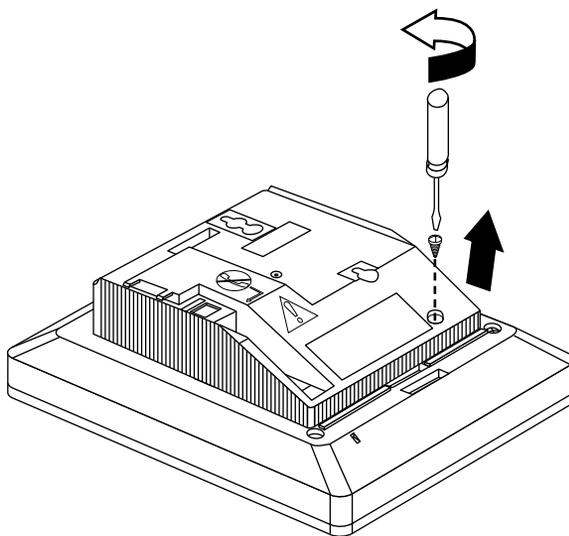
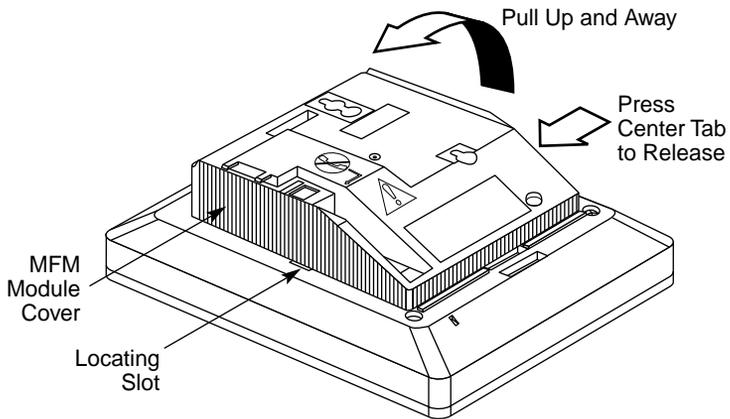
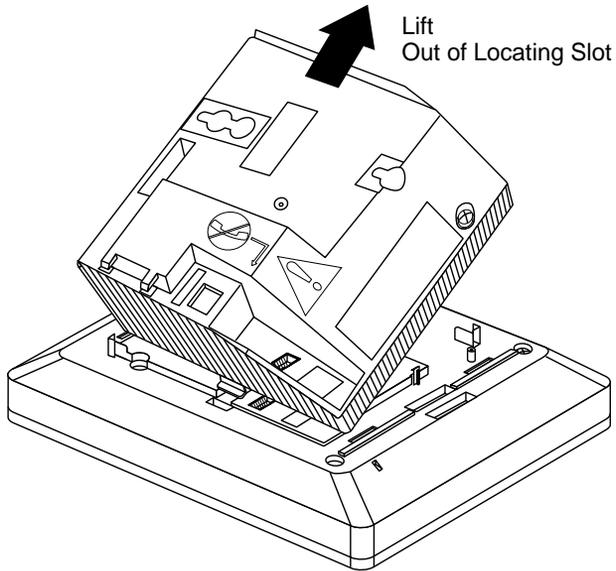

Figure 3-5. Releasing the Module Cover Screw
Figure 3-6. Releasing the Module Cover
Figure 3-7. Removing the Module Cover
- ▶ **3. Release and remove the module cover. See Figure 3-5, Figure 3-6, and Figure 3-7.**